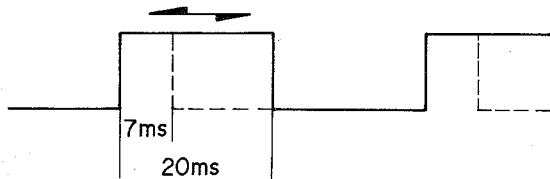

Fig. 11
- (3) Connect Oscilloscope to Test Point TP-2. When Tracking Control is changed from minimum to maximum, confirm that the Pulse Width change is from about 7 ms to 20 ms (Fig. 11)